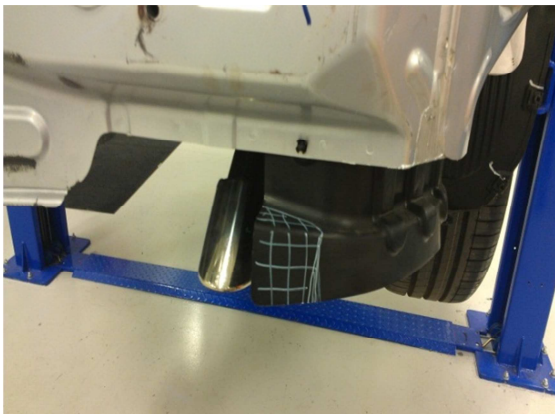

Figure 1
7. Trim Driver's side under panel guard as shown in Figure 1.